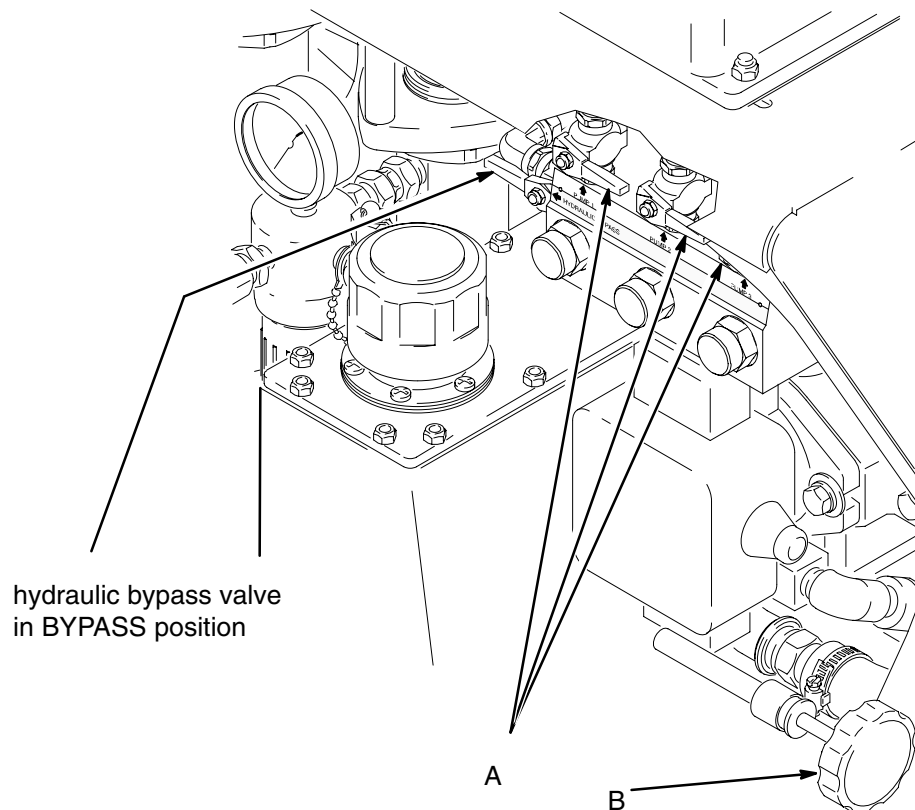

Fig. 6
3. Set hydraulic bypass valve to BYPASS position. Fig. 6.
4. Turn pump levers (A) clockwise 1/4 turn to OFF position.
2. Set hydraulic bypass valve to BYPASS position. Fig. 6.
19. Turn pump levers (A) to off position. Fig. 6.